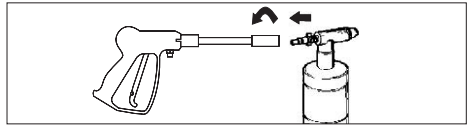

Figure 8 - Attach applicator to gun
4. Attach detergent applicator to gun (See Figure 8).